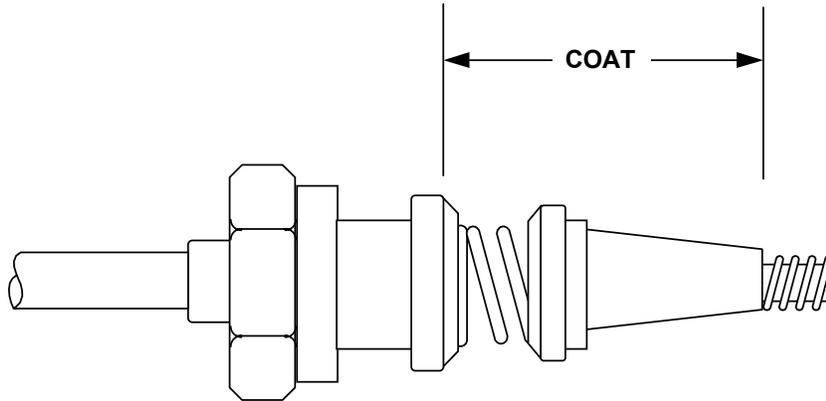

FIGURE 12-9. COATING INSULATING SLEEVE
3. To prevent sticking of sleeves and to minimize twisting of ferrule coat insulating sleeves, use MS122N/C02 Spray, Miller-Stephenson Chemical Co., Inc., 16 Sugar Hollow Road, Danbury, Connecticut 06810. See Figure 12-9, "Coating Insulating Sleeve."